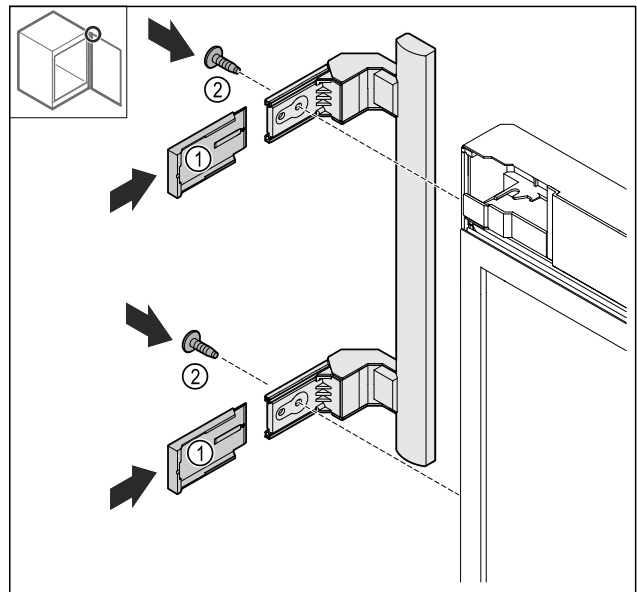

Fig. 21
- Slide on the Fig. 21 (1) covers.